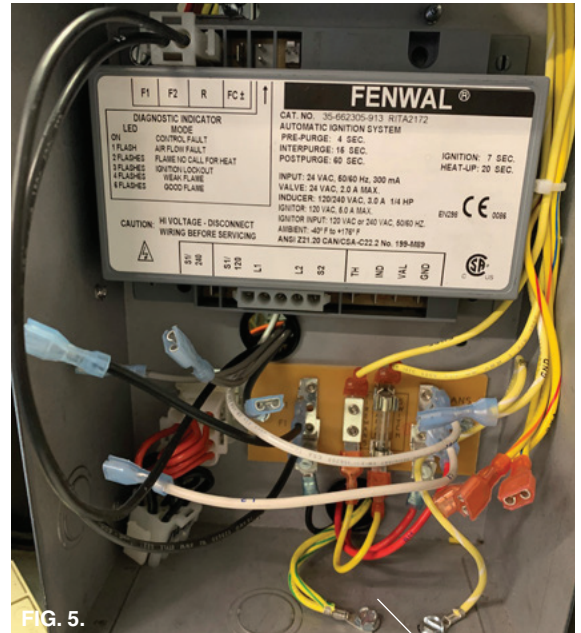

FIG. 5.
5. Connect the **F1 and F2** plug as shown in Fig. 5.